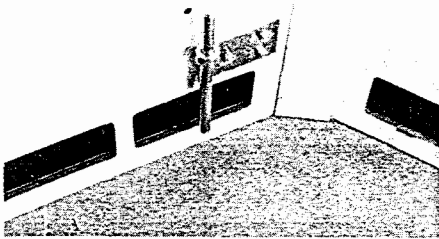

Fig. 29
**HINGE PIN INSTALLATION:** Mount the hinge pins to wall panels 1 and 5. While one person on the inside of the booth aligns the hinge pin with the bolt pattern in the panel, the person on the outside pushes the 1/4" bolts through the wall panel and hinge. The person on the inside secures the 1/4" bolts with the appropriate nuts. A collar is placed over the bottom hinge pins. (Fig. 29)